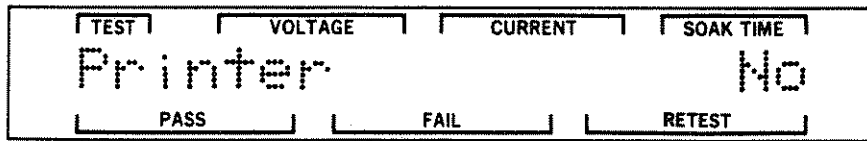

Figure 7-50. Printer Screen
STEP 20. Press the DOWN pushbutton once to display the Printer screen. Figure 7-50 is an example of this screen.